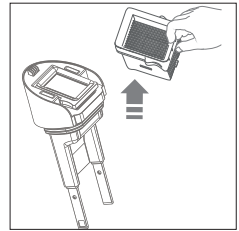

Fig. 16 – Removing the filter
- ▶ Pull the EPA 10 filter upwards and remove from the dirty water tank cap (see Fig. 16).